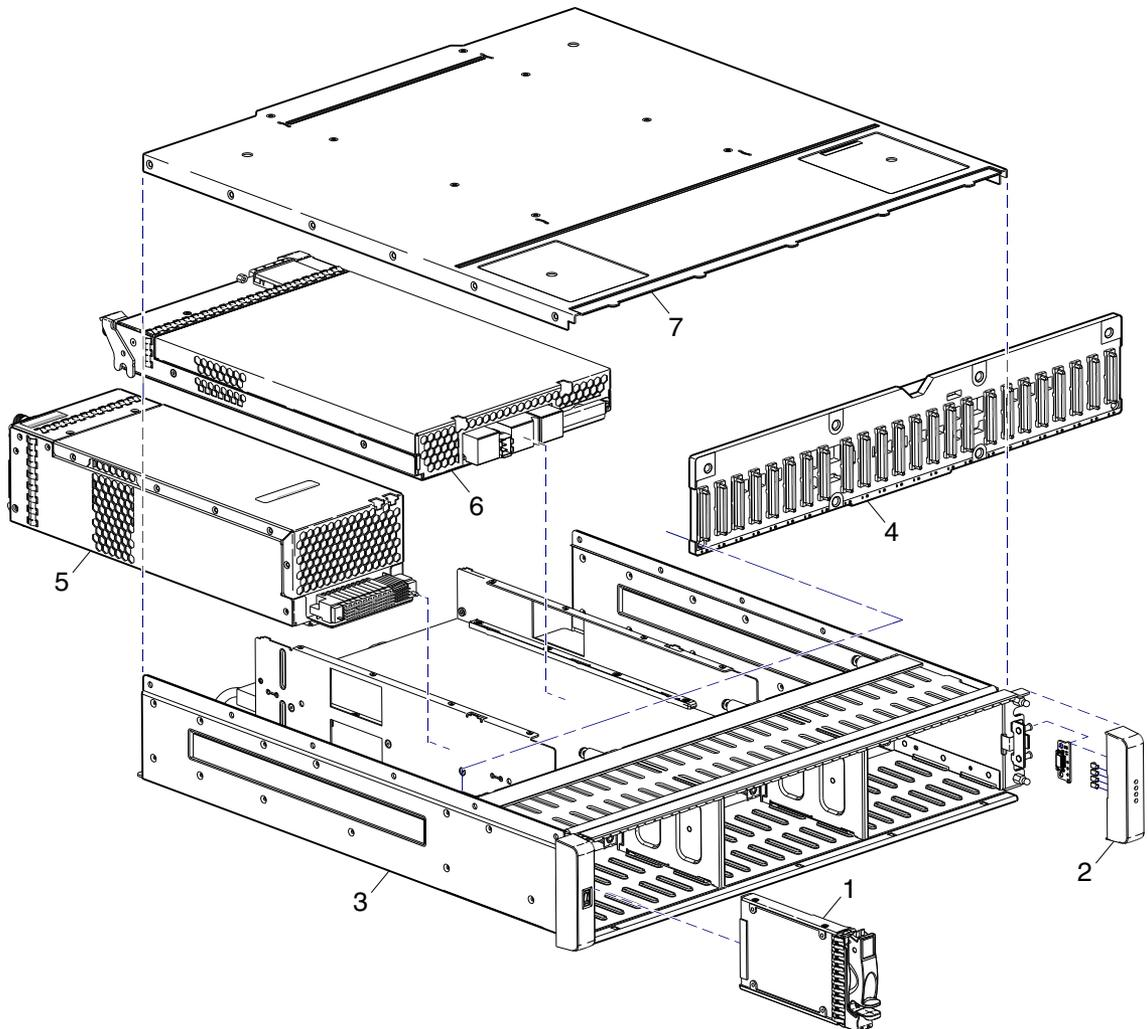
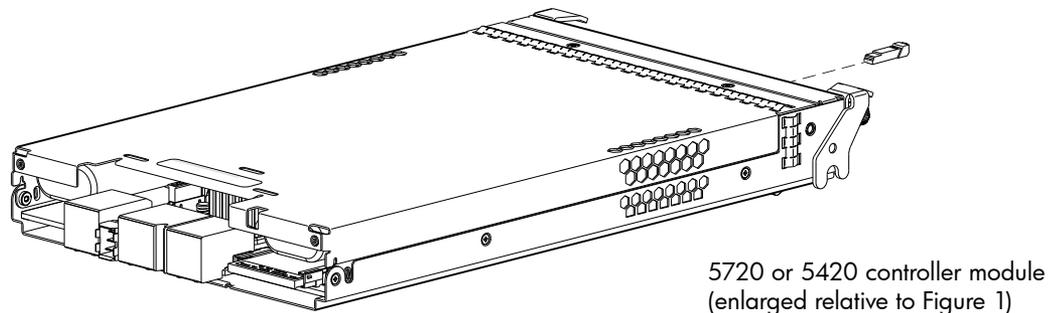
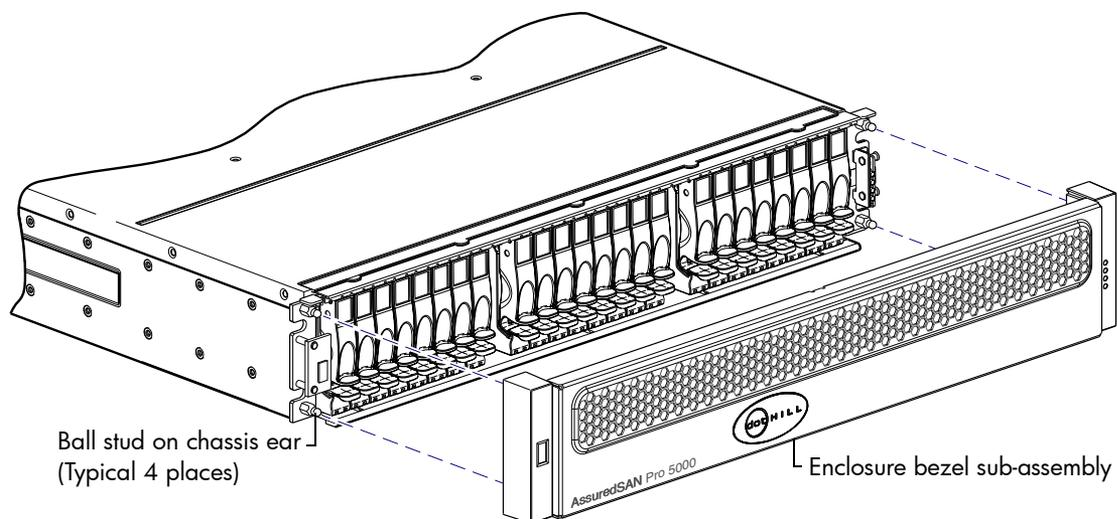

Figure 1 Exploded view — controller or expansion enclosure (reduced-depth 2U24)
Figure 2 Pro 5000 Series controller module with SFP or SFP+ transceiver
Figure 3 Partial assembly showing bezel alignment (reduced-depth 2U24)
3	Chassis (sheet metal flanges on internal IOM bay assembly are omitted from Figure 1 for visual clarity)
Controller module for enclosure [two required per controller enclosure] (see Figure 2 on page 14)
Small form-pluggable (SFP) connectors (see Figure 2 on page 14)
**NOTE:** Numbered items from Table 4 are shown in Figure 1. Tinted items from Table 4 are shown in Figure 2 on page 14.
Figure 1 through Figure 5 illustrate 24-drive enclosure models. Item No.6 (above) is a supported expansion module. Figure 2 shows a newer Pro 5000 Series controller module also supported by the enclosure. Although Figure 1 shows ear caps (item No.2), newer product models use an enclosure bezel instead of ear caps. The enclosure bezel is shown in Figure 3 on page 14 (removed) and Figure 4 on page 15 (installed), respectively.
- Controller module pictorial — Figure 2 on page 14
- Assembly — Figure 3 and Figure 4 on page 15
The controller module shown in Figure 2 is used instead of the expansion module (item No.6 in Figure 1) when the chassis is configured for either a 5720 or 5420 controller enclosure, rather than a 5120 expansion enclosure. The transceiver is shown exploded from the IOM.
Newer models of the SFF 24-drive enclosure support a bezel sub-assembly that attaches to the front of the chassis (see Figure 3 on page 14). The bezel—comprised of a vented sheet metal cover secured to an ear cap on each end—is pre-assembled and packed with foam into a box included in the master shipping container.
Bezel attachment and removal instructions are provided beneath Figure 3 on page 14.
- See Figure 3 on page 14 for 2U24 enclosure bezel alignment.